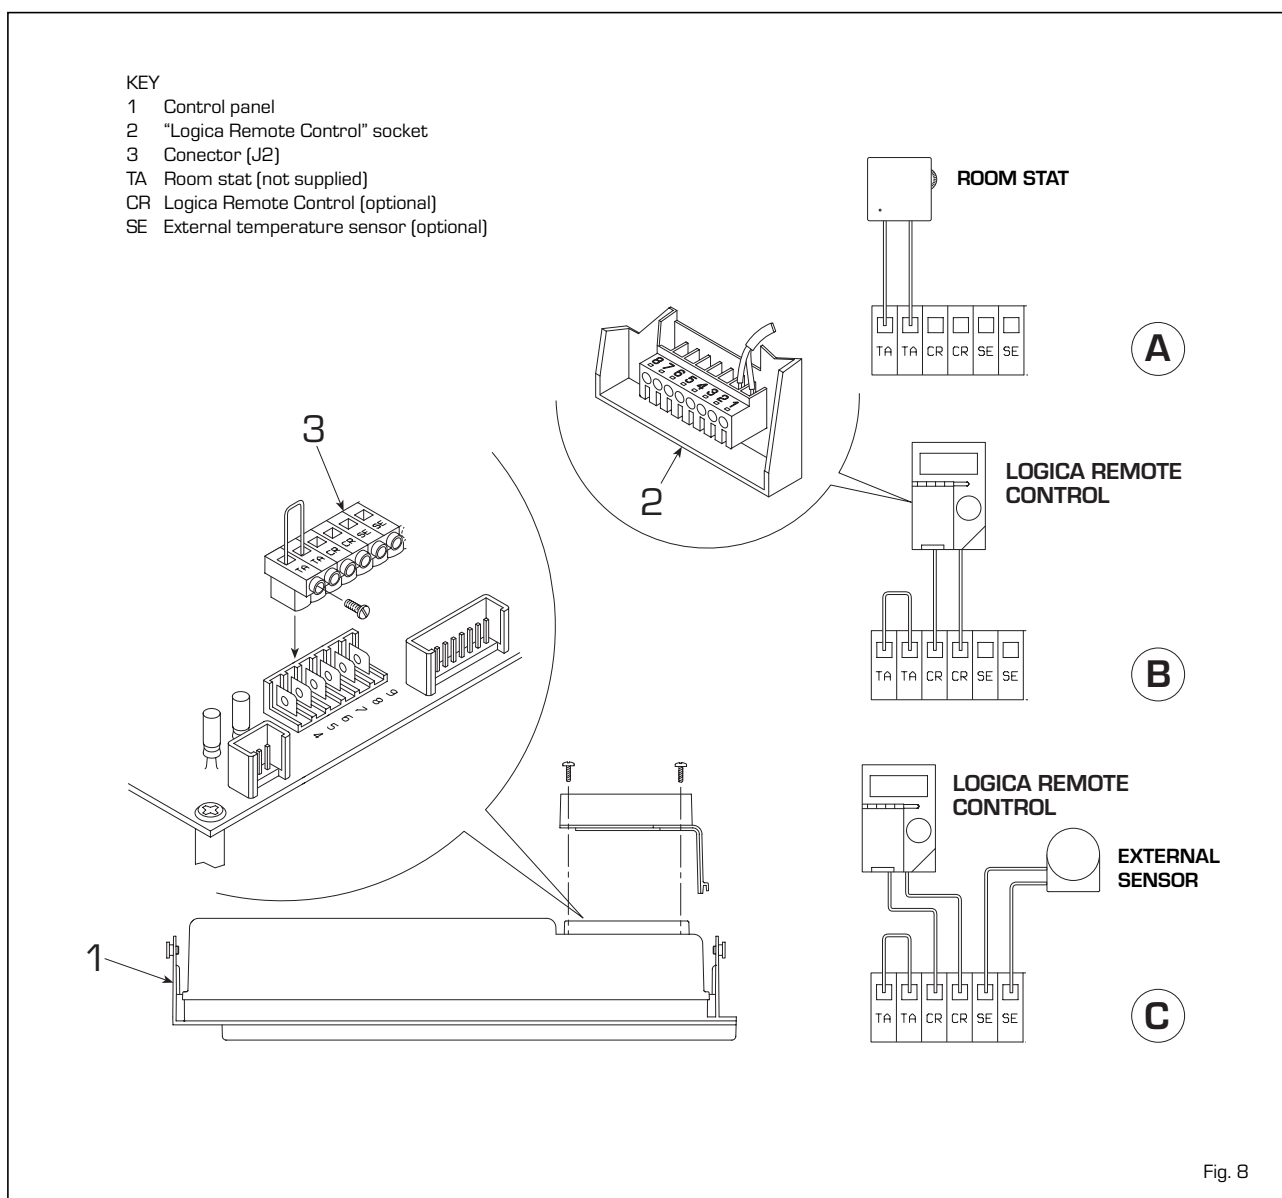

Fig. 8
2.9.1 Room stat connection (fig. 8 pos. A)
2.9.2 "Logica Remote Control" connection (fig. 8 pos. B)
2.9.3 External temperature sensor connection (fig. 8 pos. C)